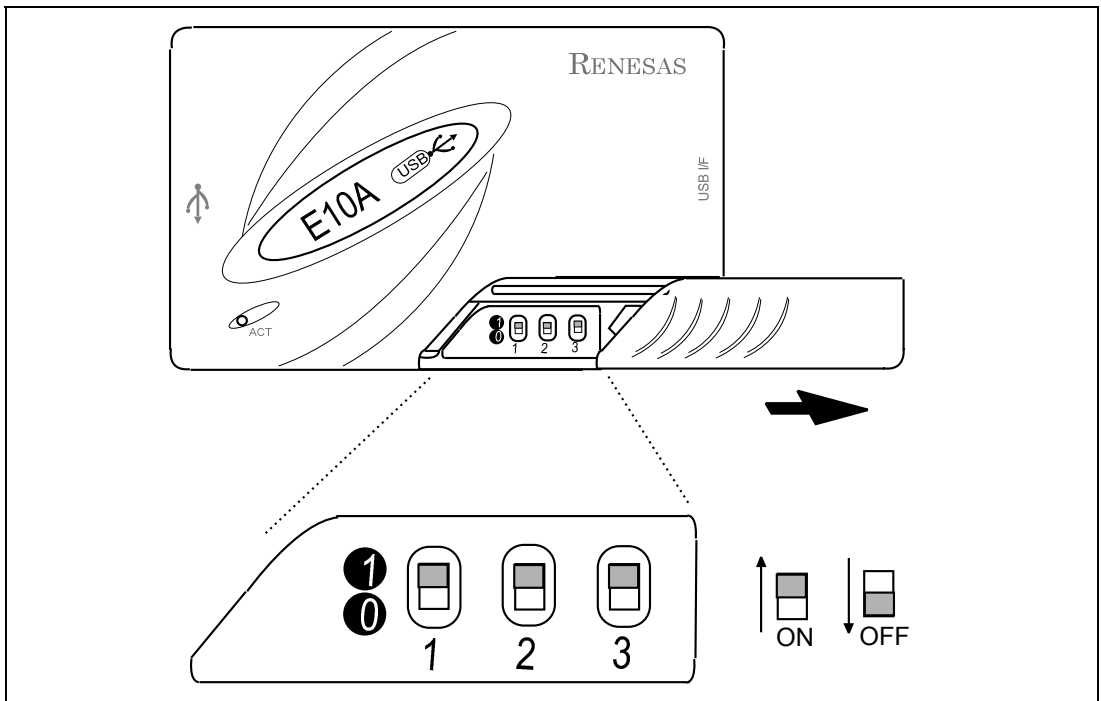

Figure 2.14 Setting the DIP Switches of the E10A-USB Emulator
1. Open the sliding switch cover in the lower right portion of the upper side of the E10A-USB emulator by sliding it to the right as shown in figure 2.14.